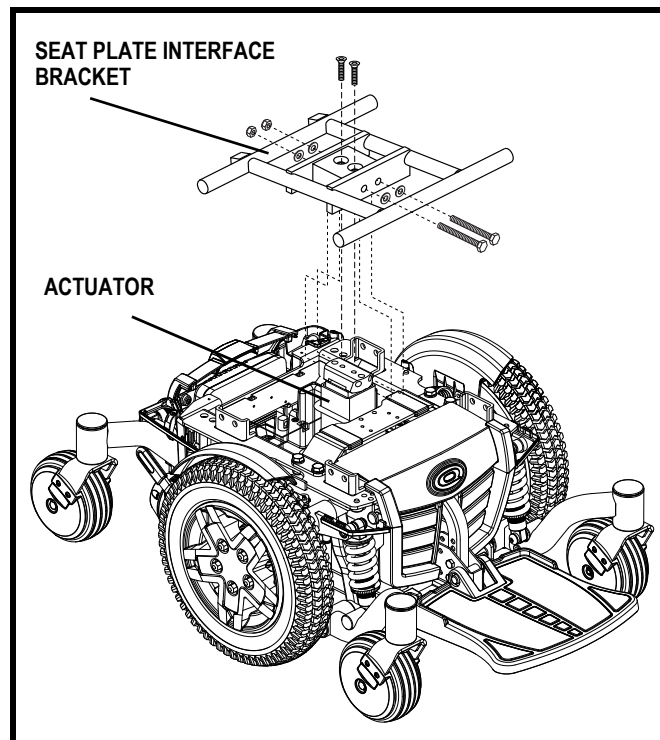

Figure 11. Power Elevating Seat Actuator
1. Place the seat plate interface bracket onto the actuator. See figure 11.